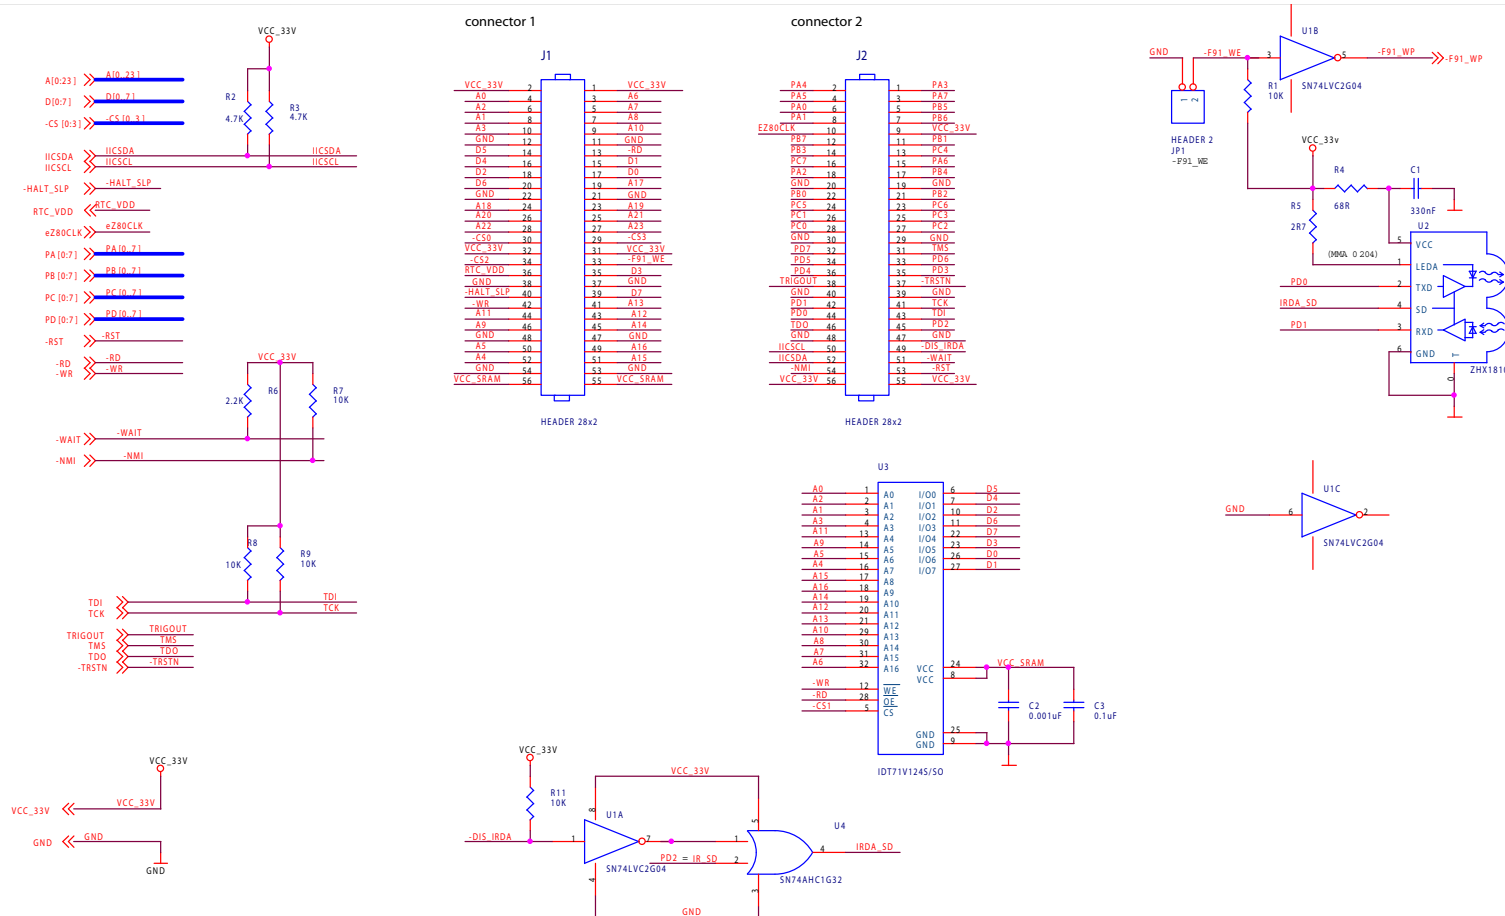

Figure 5. eZ80F91 Mini Enet Module for eZ80AcclaimPlus!™ Schematic Diagram, #1 of 2—Connectors and Miscellaneous
1. For the sake of simplicity in describing the interface, Power and Ground nets are omitted from this table. The entire interface is represented in the eZ80F91 Mini Enet Module schematics (see Figure 5 on page 14 and Figure 6 on page 15).
Figure 5 and Figure 6 display the layout of the eZ80F91 Mini Enet Module for eZ80AcclaimPlus!. IrDA circuitry devices are not installed on the eZ80F91 Mini Enet Module for eZ80AcclaimPlus!. However, these devices appear in the following schematics for reference purposes. Please see “IrDA Transceiver” on page 11 for additional information.